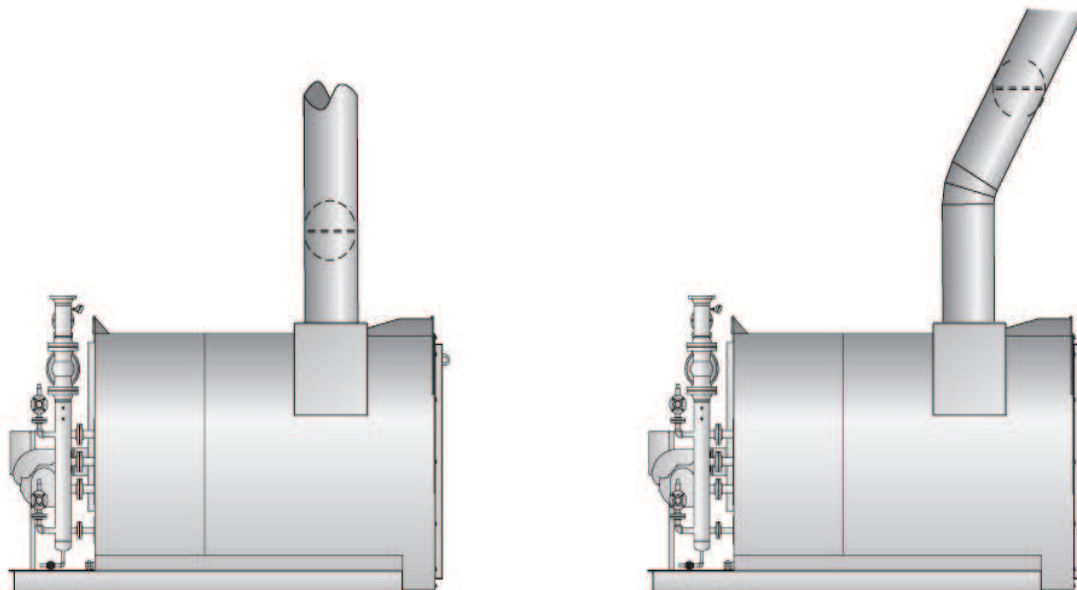

FIGURE 18 - BAROMETRIC DAMPER INSTALLATION
9. The installation of a draft regulator by the client/contractor is recommended at all installations. This will help to maintain the required draft. The placement of the draft regulator should be as shown in Figure 16 and Figure 18.